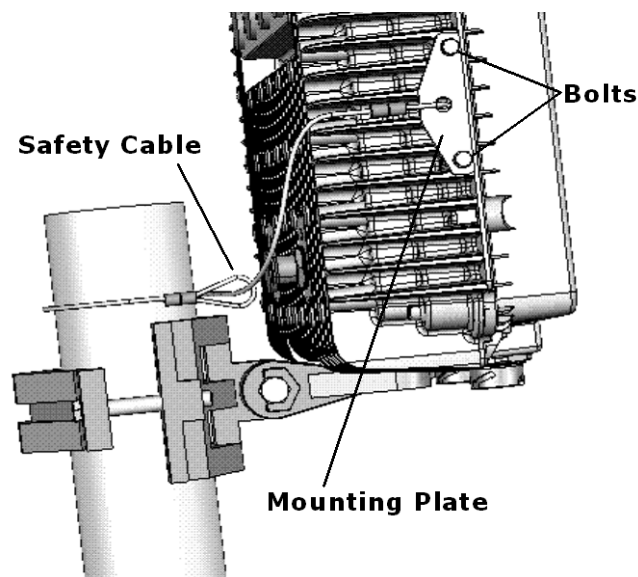

Figure 5: Safety Cable Installation
1. After assembling the brackets, mount the NetPoint Pro 3x2.4 unit on to the bracket as shown in Figure 5. Use a flat washer [H], a spring washer [I] and a nut [J].
1. After assembling the brackets, mount the NetPoint Pro 3x2.4 unit on to the bracket as shown in Figure 5. Use a bolt [F], flat washer [H], spring washer [I] and nut [J].